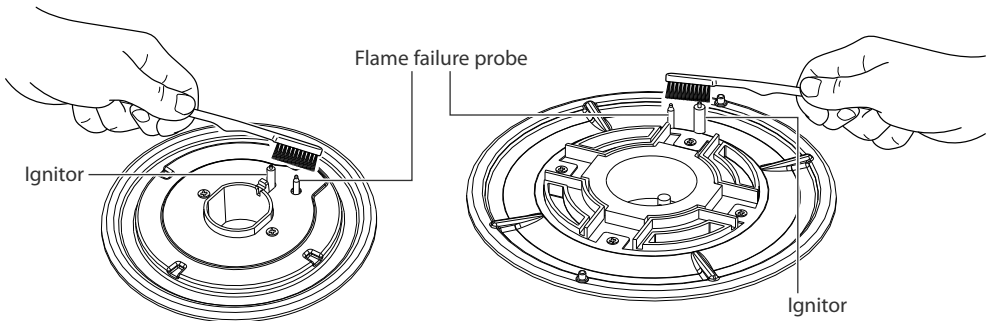

Fig.13 Cleaning the ignitor and probe
The burners have a flame failure probe as well as an ignitor (see Fig 13). The flame failure probe cuts off the gas supply to the burner if the flame is blown out.
- the ignitors are sparking. If the ignitors are not sparking, they may be dirty or wet. Clean them with a toothbrush and methylated spirits, as shown in Fig. 13.